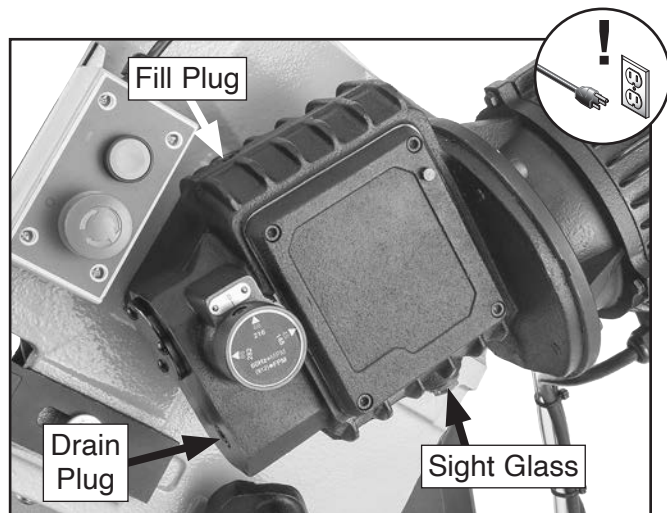

Figure 66. Location of gearbox components.
4. Remove fill plug (see **Figure 66**).
5. With drain pan positioned to catch oil, remove drain plug (see **Figure 66**).
12. Remove fill plug, add oil until it fills half of sight glass, then install fill plug (see **Figure 66**).